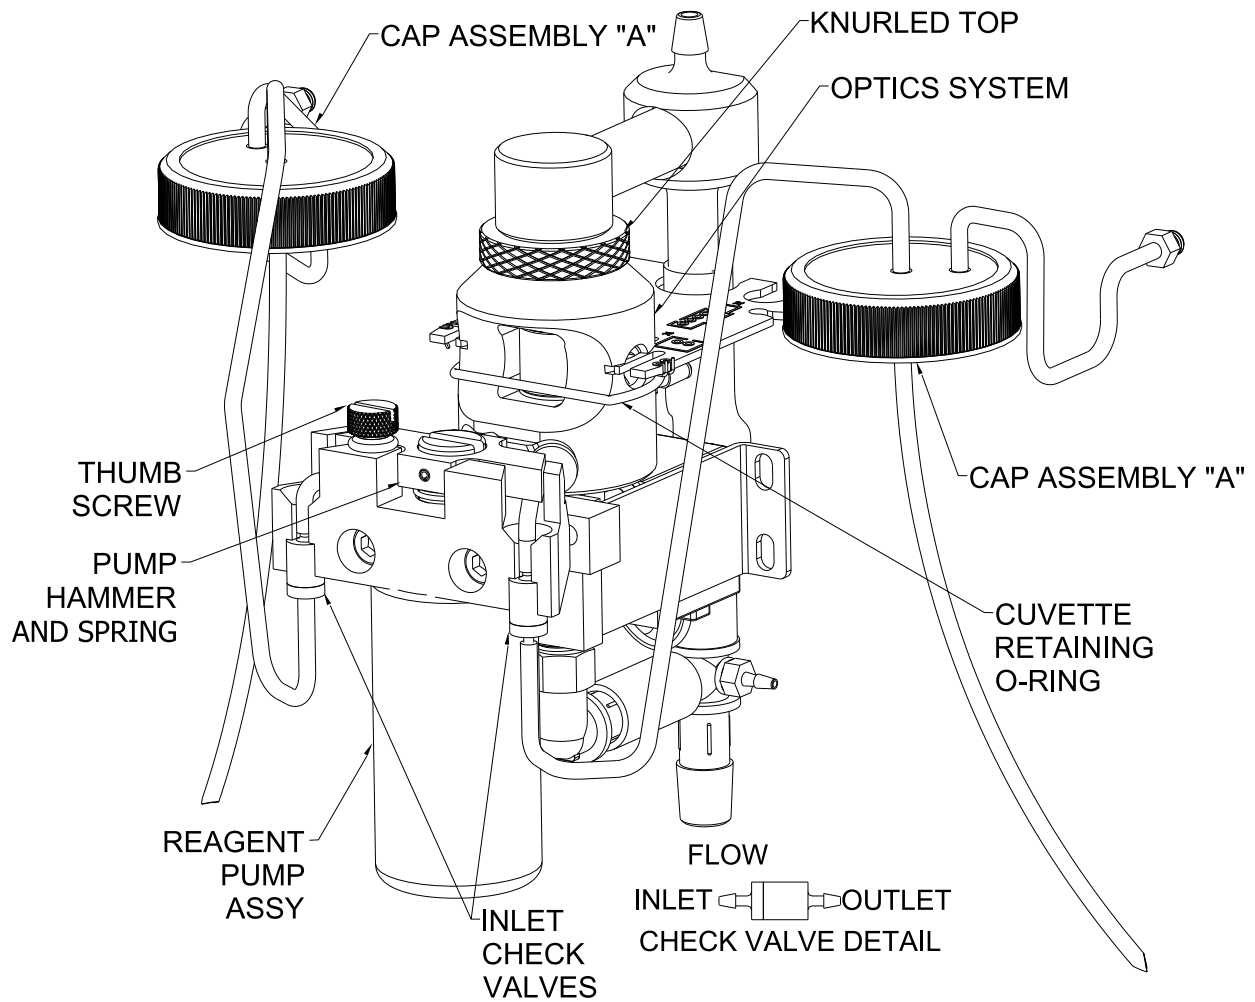

Figure 8: Reagent Tubing Installation
The pump tubing may need replacement more often because they are subject to wear from the reagent "Pump". The check valves should not need to be replaced and should be saved. Please note that the check valves are directional and that the "IN" side is smaller in diameter (see Figure 8).
8. See Figure 8 to ensure correct installation.